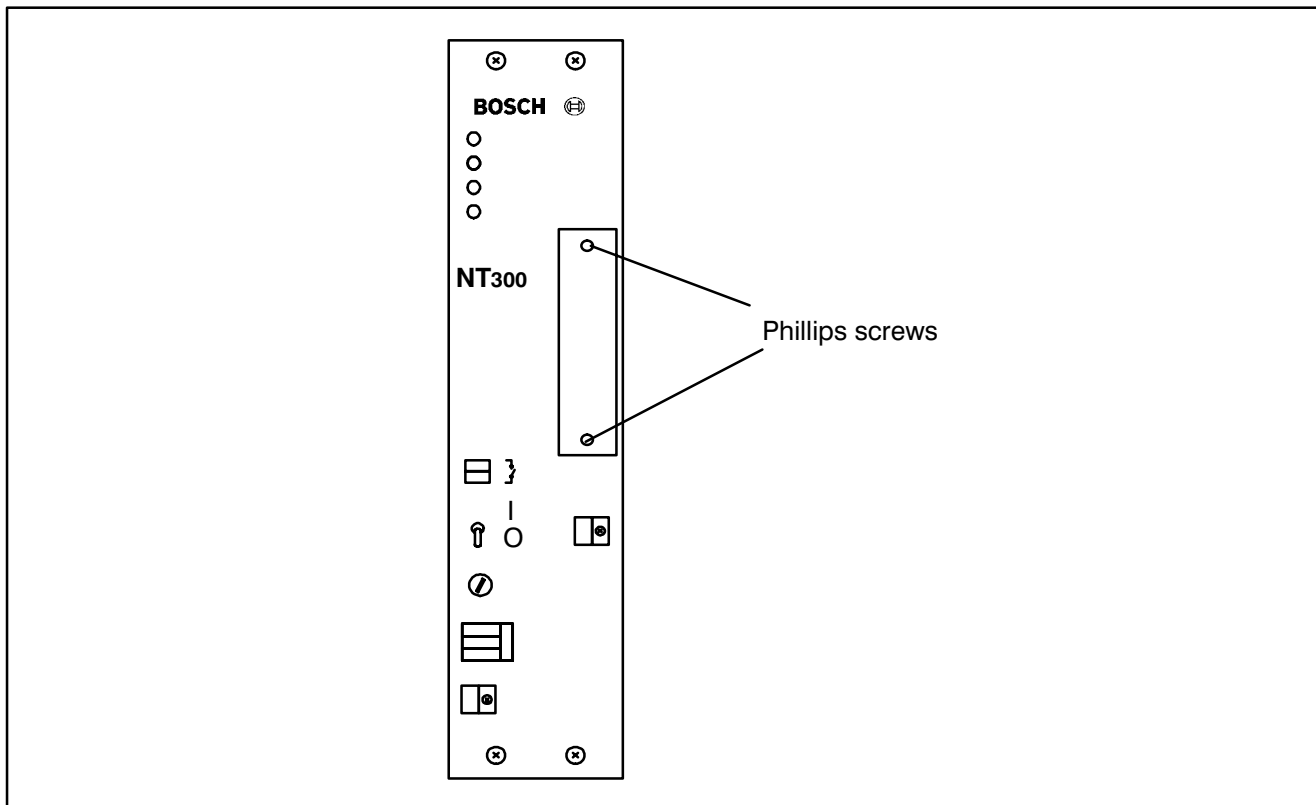

Fig. 4–3 Buffer Battery NT300
- ★ Unscrew the 2 Phillips screws and take out battery box (see Fig. 4–3).
- ★ Insert buffer battery (2). (Observe the polarity!)